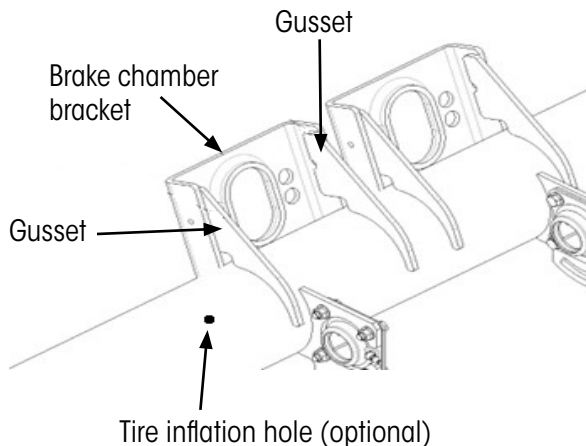

Figure 14: Gussets on axle
3. Place the gussets on the axle tube and against the inside of the brake chamber bracket (BCB) leg, Figure 14.
4. Before welding, check for clearance between the tire inflation holes/fittings in the axle and the new gussets, Figure 14.